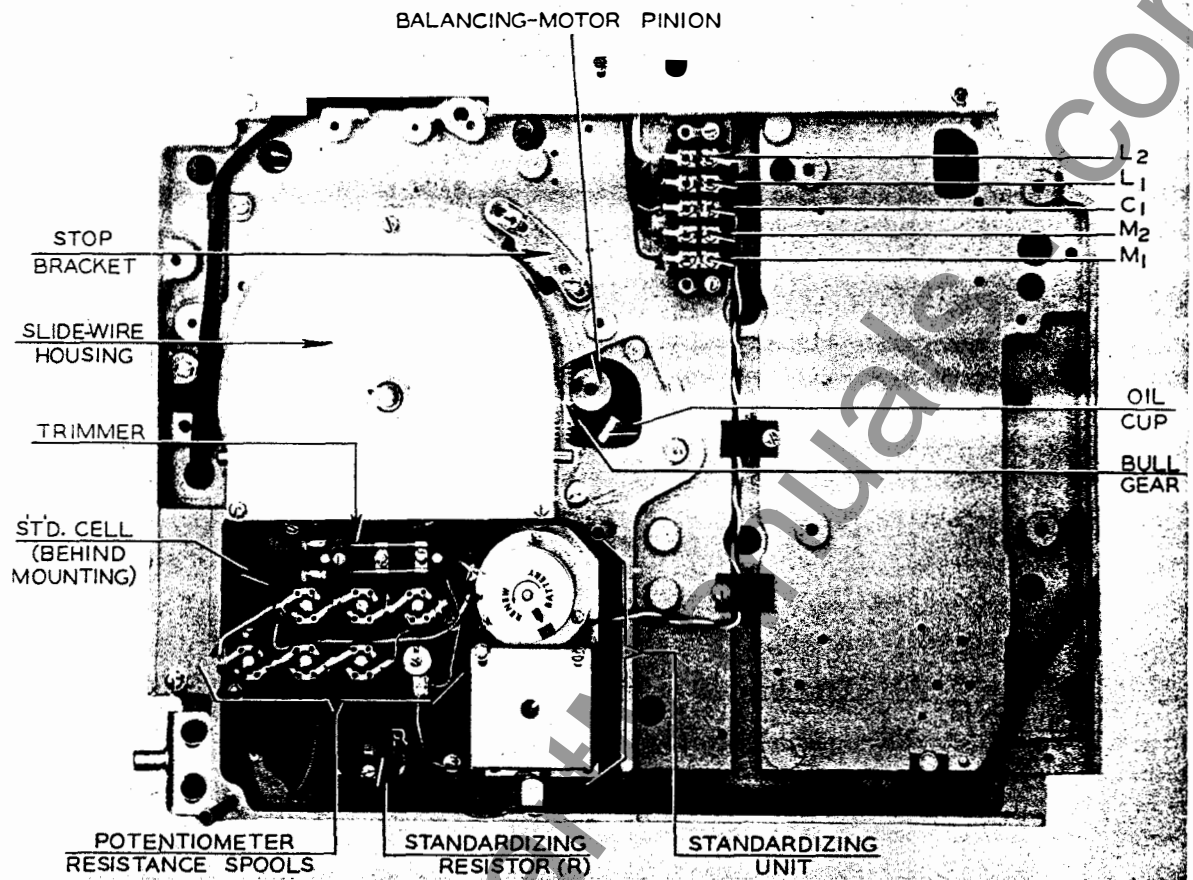

FIGURE 6. REAR VIEW OF HINGED PANEL
**a. On instruments with the Series C amplifier.** Turn power switch off. Remove the two control-winding wires at terminals  $M_1$  and  $M_2$  (Figure 6) and then put these wires across terminals  $L_1$  and  $L_2$  on the same terminal block. Turn on power switch. The motor should move the pen up or downscale (depending upon phase). Next, reverse these wires from the control winding. The motor should move the pen in the opposite direction. If the balancing motor fails to move the pen up or downscale with the above tests, it could mean that one of the following conditions exists: